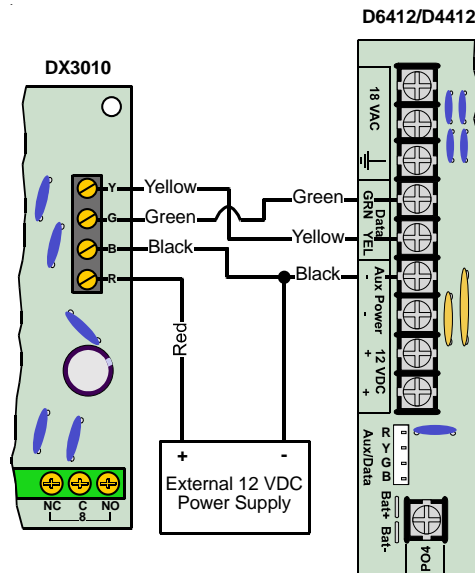

Figure 29: Wiring for External Power Supply
**IMPORTANT** *If the DX3010 is to be installed far from the control panel, then the control panel cannot be used to power the DX3010. An external power supply must be used. See *Figure 29* for external power supply connections.*
If necessary to power the DX3010 from an external power source, connect it to the power source and the panel as shown in *Figure 29*. See *Section 4.3 External Power Supply* for external power supply restrictions.